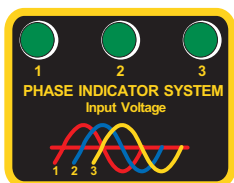

Figure 4.5
1. Toggle the circuit breaker on the back panel to "ON". Three green lights on the front panel should illuminate indicating 3-phase installation, 2 green lights for 1-phase installation (*fig. 4.5*)